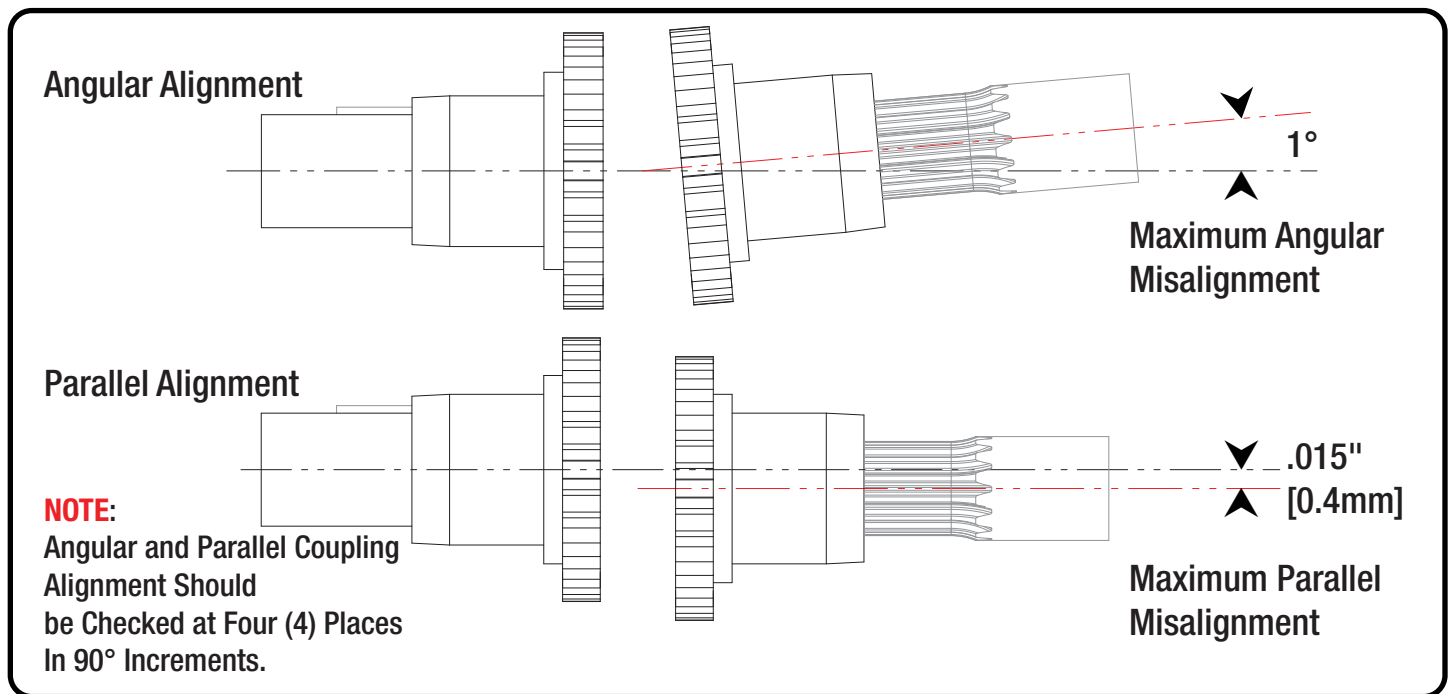

Figure 5
3. Misalignment of pump and driver shafts can be angular and/or parallel as shown in figures below. Maximum angular offset in the two coupling halves cannot exceed 1 degree; parallel offset cannot exceed 0.015" [0.4mm]. Loosen mounting bolts of pump and driver, set proper alignment, and re-tighten bolts to proper torque rating provided by coupling manufacturer. See Figure 5 below.